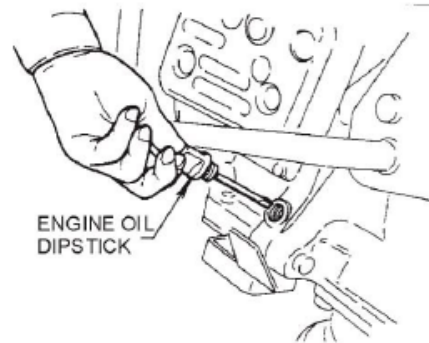
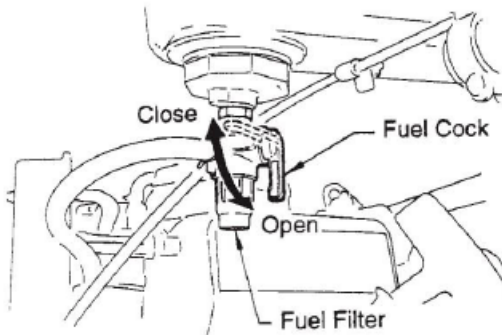

Figure 4 Engine Oil Dipstick
Figure 5 Fuel Cock
2. Close the fuel shut-off valve by moving the fuel cock lever to the **CLOSED** position. See Figure 5.
1. Open the fuel shut-off valve by moving the fuel cock lever to the open position (Figure 5) then set the engine start/stop switch (Figure 4) to the “Start” position.